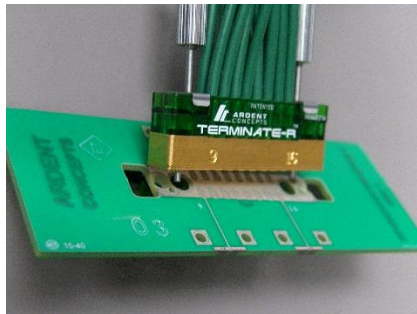

Figure 5: Aligning the TR Assembly
1. Locate the alignment dowels on the bottom of the TR Assembly, take note of the larger to smaller diameter dowel pins as they will be used as a reference when alignment is made to the board (See Figure 5).